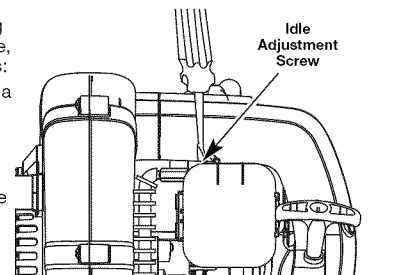

Fig. 21
The idle speed of the engine is adjustable. An idle adjustment screw is between the air filter cover and the engine cover (Fig. 21).
- Move the cruise control to the SLOW position and let the engine idle. If the engine stops, insert a small Phillips screwdriver in between the air filter cover and the engine cover (Fig. 21). Turn the idle speed screw in, clockwise, 1/8 of a turn at a time (as needed) until the engine idles smoothly.